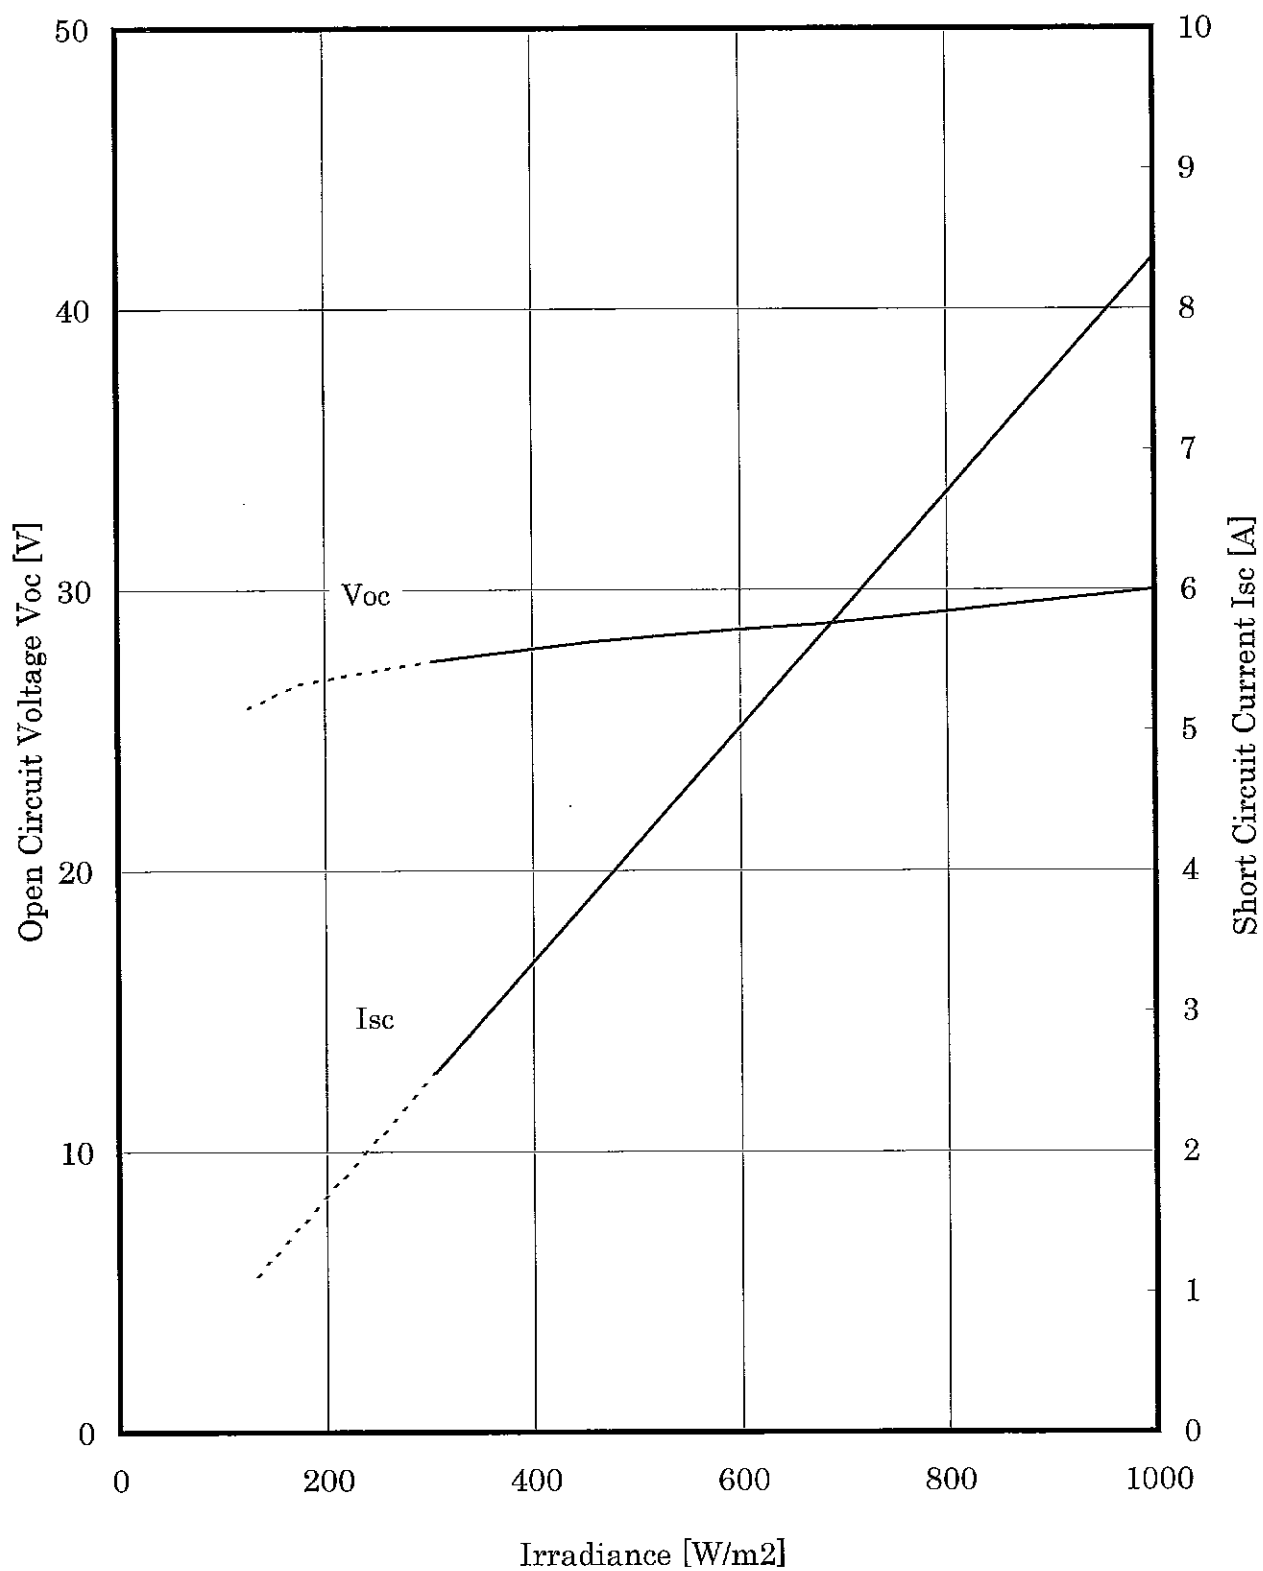

Fig. I -1 Open Circuit Voltage , Short Circuit Current vs. Irradiance Characteristics
- (1) Fig. I -1: Characteristics regarding Open circuit voltage and short circuit current versus Irradiance